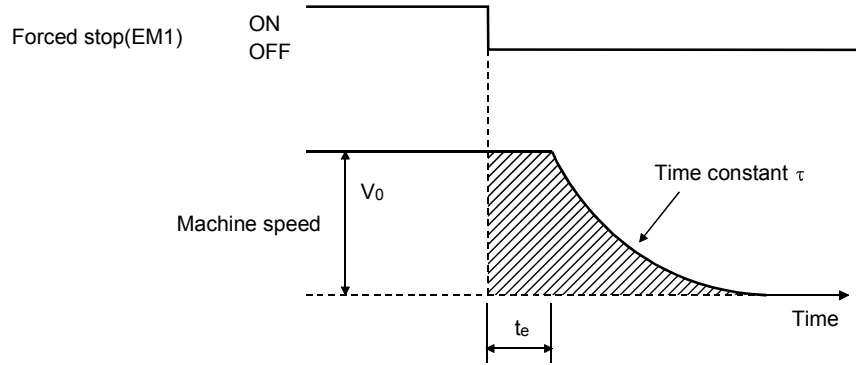

Fig. 10.3 Dynamic brake operation diagram
Fig. 10.3 shows the pattern in which the servo motor comes to a stop when the dynamic brake is operated. Use Equation 10.2 to calculate an approximate coasting distance to a stop. The dynamic brake time constant  $\tau$  varies with the servo motor and machine operation speeds. (Refer to (2)(a), (b) of this section.)